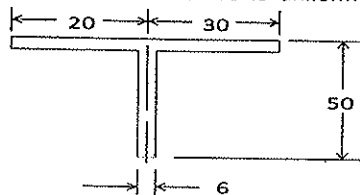

Fig.2
11. (b) Compute bending stresses at the points 1,2,3,4,5,6,7,8 of the section shown in Fig.2. $M_y = 500$ Nmm and $M_x = 100$ Nmm. All dimensions are in mm. Thickness is uniform and the moment applied about